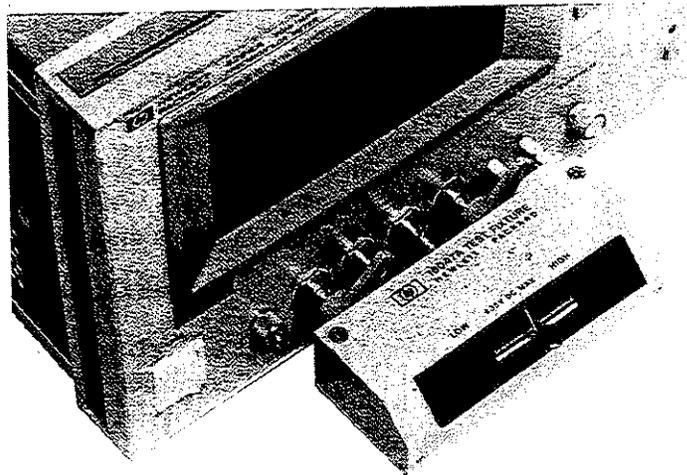

Figure 6-21. Connecting DUT
Insert the DUT into the HP 16047A's measurement contacts deeply as shown in Figure 6-21.
- a. Leave the HP 16047A in an OPEN condition as shown in Figure 6-21.